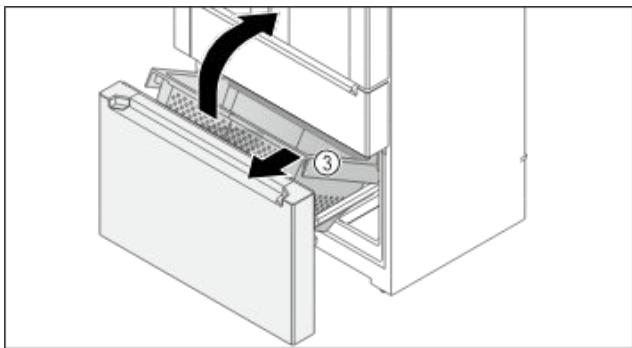

Fig. 153
- Pull the container Fig. 153 (3) out forwards.
- Remove the container Fig. 153 (3) diagonally forwards.